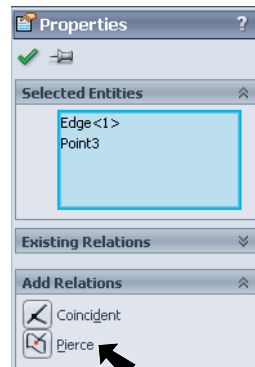

Fig. 28
- Step 3. In the Property Manager under Add Relations, click **Pierce** , **Fig. 28**. Click OK .